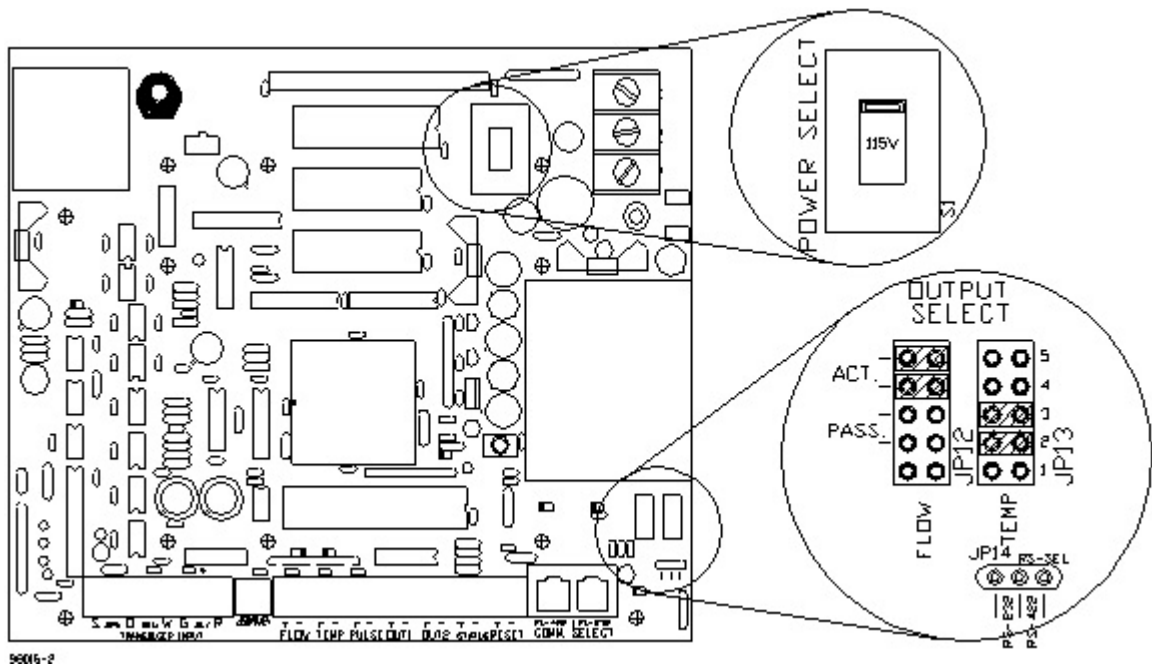
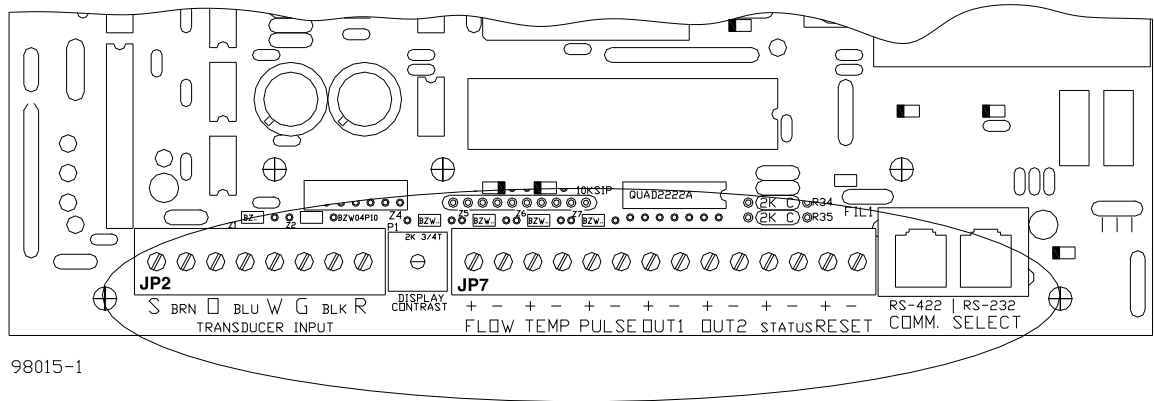

Figure 1 - Transmitter Hardware Configuration
Figure 2 - Transmitter Terminal Connections
1. Verify/configure the input power. The input power requirement is listed on the tag on the transmitter enclosure. Be sure the input power source to be used is properly selected in the unit. Input power can be either 115 Vac or 230 Vac single phase, 50-60 Hz. The power configuration may be changed in the field. Using Figure 1, locate the power select switch on the lower printed wiring board and slide the power select switch to either the 115V or the 230V position. ***Do not apply power to the instrument until all other connections and optional selections have been made.***
2. Check the analog output configuration of the transmitter and your input device. The analog output terminals for flow and probe temperature are shown in Figure 2 at the far left terminals of JP7. If the instrument is configured for current outputs, set the flow and temperature output type for either passive or active transmitter by positioning the header pin shunts shown in Figure 1 at JP12 and JP13. (Active: Current to loop is sourced by transmitter. Passive: Output receiver sources current.) This figure shows an active configuration for the flow output and a passive configuration for the temperature output. Typically, units are shipped configured in the active mode, unless the voltage output option is specified.
If a distance of greater than twenty-five feet is needed for the serial communications, RS-422 should be used instead of RS-232. Inspect the jumper at JP14 (Figure 2) for the proper communication type.